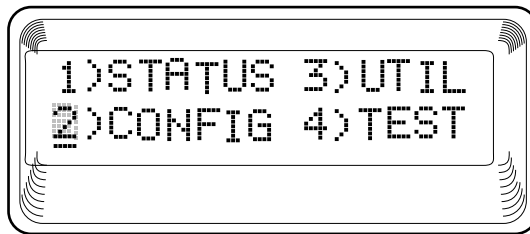

Figure 3-4. Cursor on Menu Item
1. Use the front panel **UP** and **DOWN** arrows to place the cursor on a main menu item; in this example, **2) CONFIG**. See Figure 3-4.